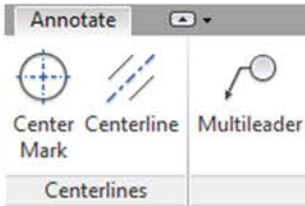

Fig. 8.7 Centerline and Center Mark
2. Use the **Center Mark** tool (Fig. 8.7) to place a center mark in the arc of the front view and in the outer circle of the top view.